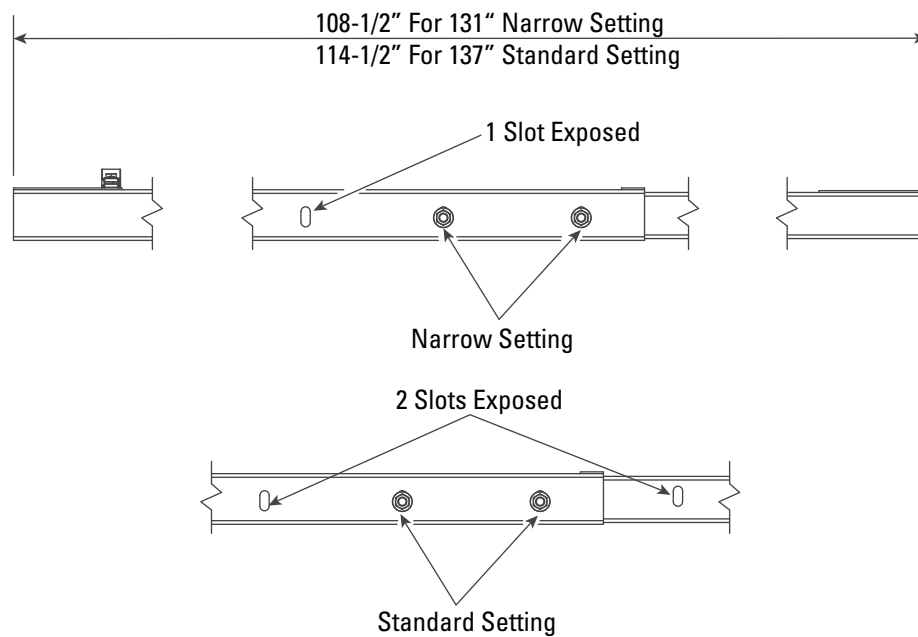
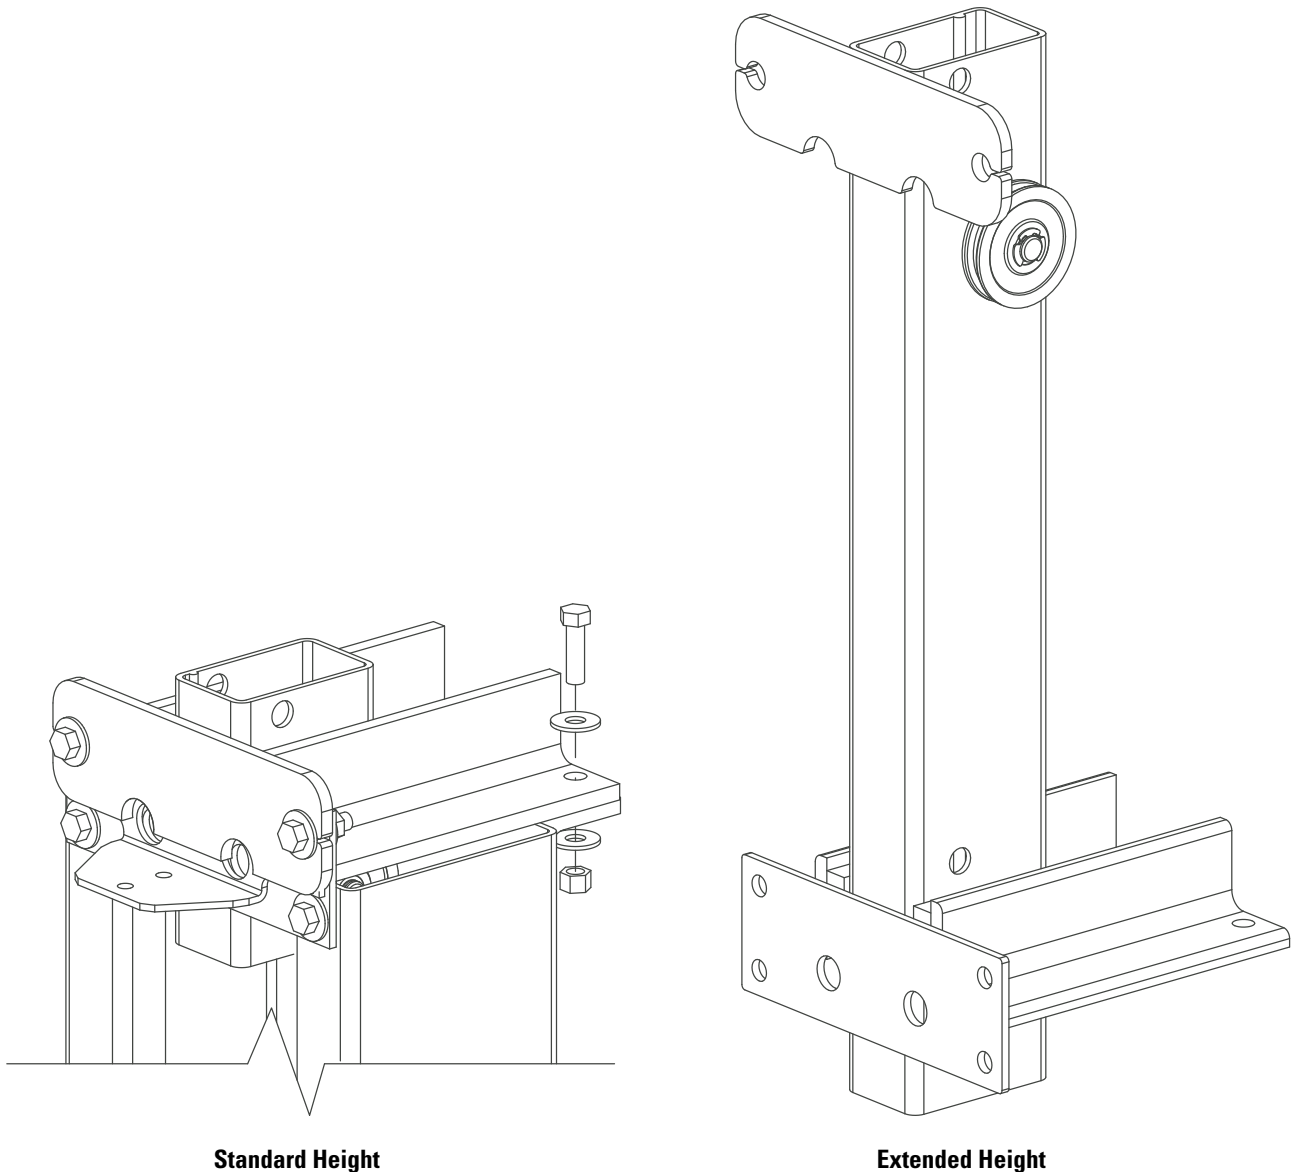

Figure 3
Figure 3a
4. Attach the cylinder mount or uprights. Attach the cylinder mounts or uprights to the legs using four $\frac{1}{2}$ " X $1\text{-}\frac{3}{4}$ " bolts, washers and nuts as shown in figure 3a. Assemble overhead beam using (2) M10 x 1.5 bolts and M10 serrated flanged lock nuts, figure 3.